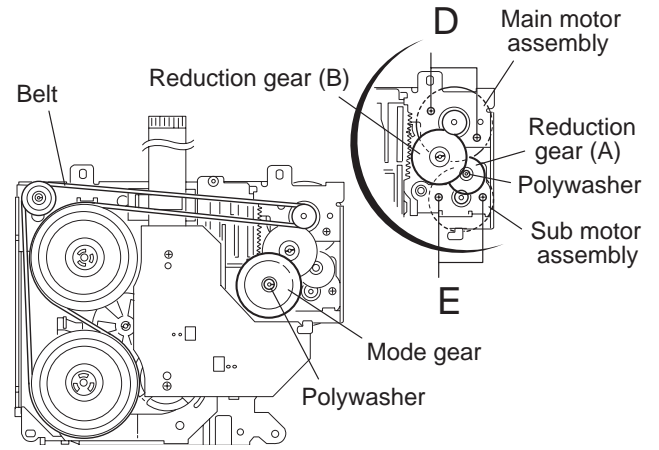

Fig.38
**(See Fig.38 to 40)**
- (1) Remove the belt at the bottom.
- (2) Remove the polywasher and pull out the mode gear.
- (3) Pull out the reduction gear **(B)**.
- (4) Remove the polywasher and pull out the reduction gear **(A)**.
- (5) Remove the two screws attaching the main motor assembly.
- (6) Remove the two screws **E** attaching the sub motor assembly.
- (7) Unsolder the wires on the reel board if necessary.